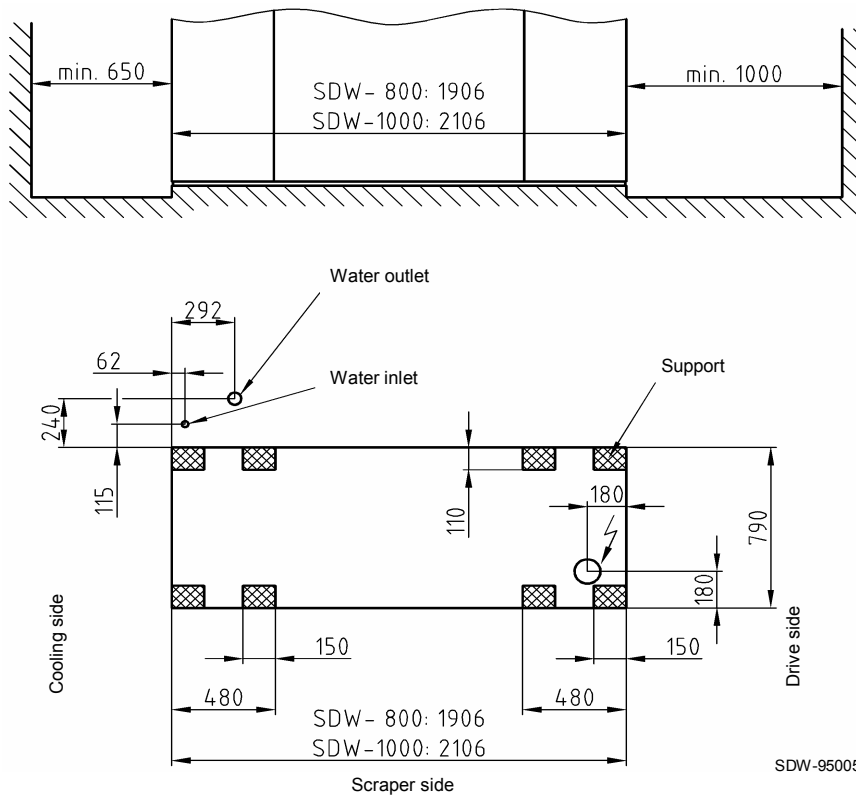

Fig. 4.1: Foundation plan
- Prepare the foundation, see Fig. 4.1.